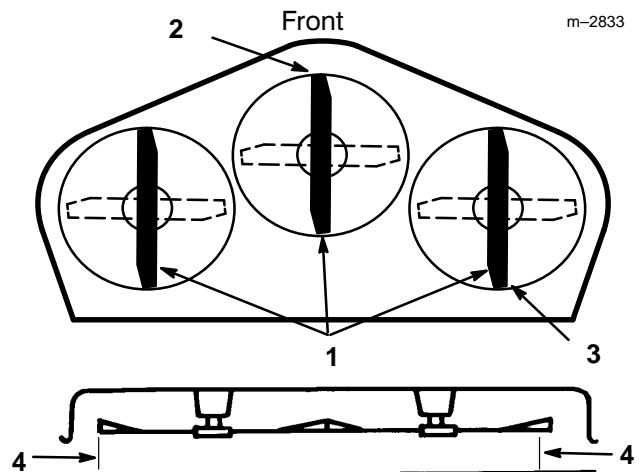

Figure 8
3. Carefully rotate blades so they are facing front and rear (Fig. 8).
4. Measure between the tip of the front blade (Fig. 8) and the tip of the rear blade to the flat surface. If the front blade tip is not 1/8–1/4" (4–7 mm) lower than the rear blade tip adjust rear adjustment link.